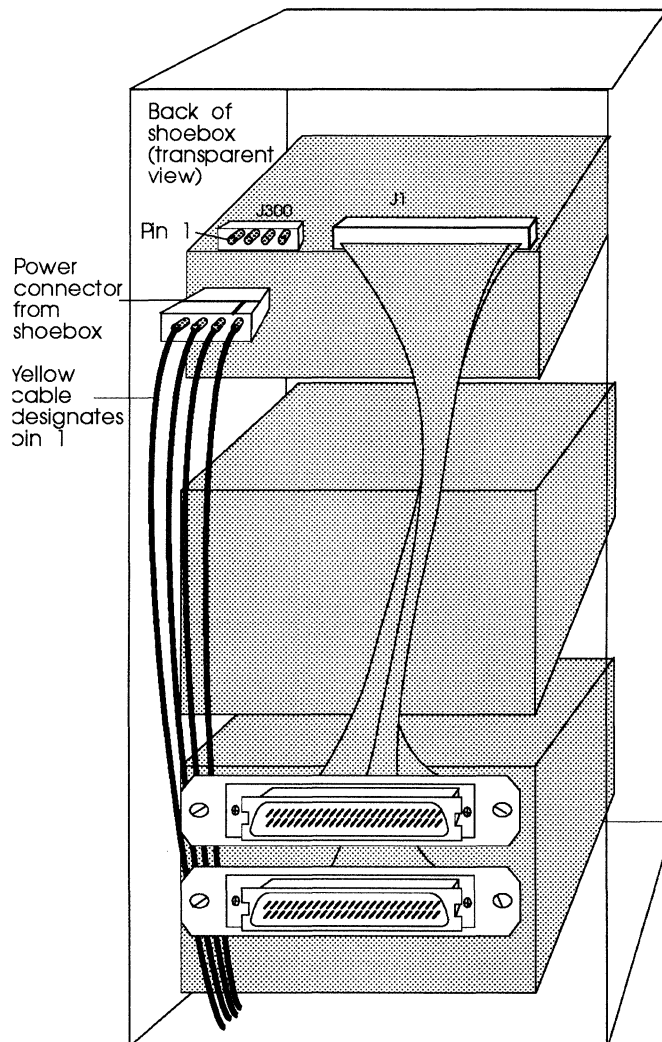

Figure 7-6: Power connection
- a Connect one power connector to the CDI-4000 at J3; see Figure 7-6.
- a Connect one power connector to the CDI-4000 at J3; see Figure 7-6 for reference.